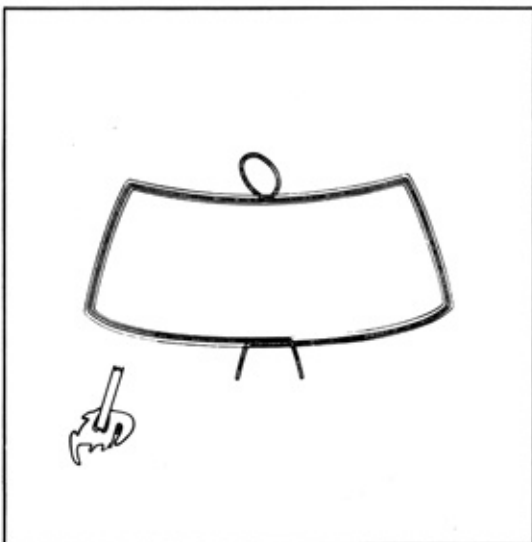

Fig. 2-67 Work Cord Installed
2. Wrap the work cord as shown in Fig. 2-67.